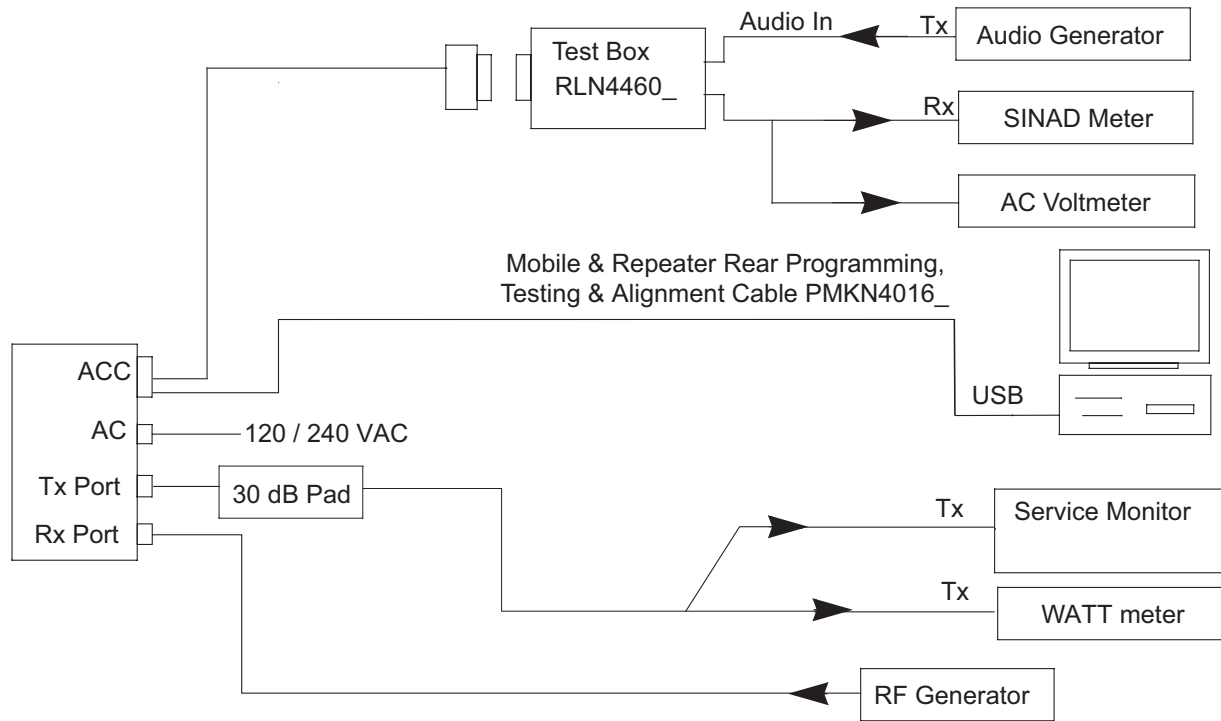

Figure 4-2. Repeater Tuning Equipment Setup
Supply voltage is 120/240 VAC. The equipment required for alignment procedures is connected as shown in the Repeater Tuning Equipment Setup Diagram, Figure 4-2.
A personal computer (PC), Windows 2000/XP and a tuner program (which is available as part of the MOTOTRBO CPS kit) are required to tune the repeater. To perform the tuning procedures, the repeater must be connected to the PC and test equipment setup as shown in Figure 4-2.